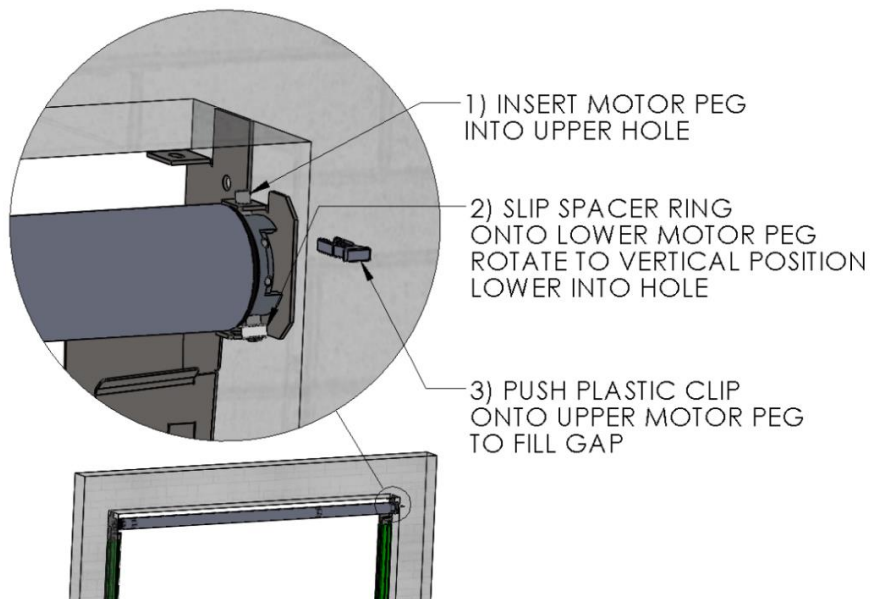

Figure 7 INSTALL R.H. SIDE OF HEADER ASSEMBLY
2. At the right side, push the Header Assembly toward the Idler side to compress (spring loaded) Idler Shaft, and insert the Upper Motor Peg fully into upper hole of R.H. Header Mounting Bracket. (Figure 7 INSTALL R.H. SIDE OF HEADER ASSEMBLY)
3. Slip the plastic Ring onto Lower Motor Peg, and insert the Lower Motor Peg into lower hole on the Header Mounting Bracket. (Figure 7 INSTALL R.H. SIDE OF HEADER ASSEMBLY)
4. Insert the plastic Clip onto Upper Motor Peg to fill space between the Bracket and Motor. (Figure 7 INSTALL R.H. SIDE OF HEADER ASSEMBLY)